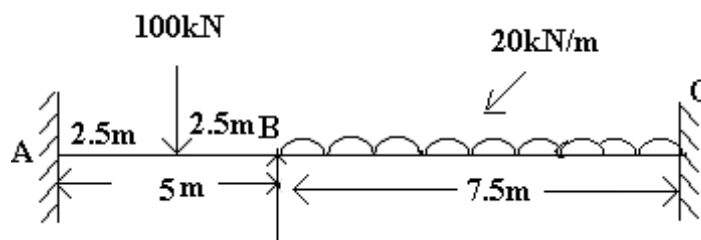

Figure 1:
5. Using slope deflection method, analyse the two span continuous beam loaded as shown in the Figure 1 Sketch the B.M. and S.F. Diagram. [16]